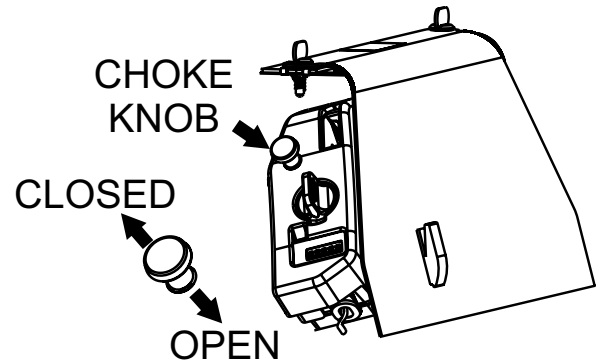

Figure 10. Choke Knob
2. When starting a cold engine, pull the choke knob, (Figure 10) out to the closed position. In warm weather or when the engine is warm, the unit can be started with choke halfway or completely open.